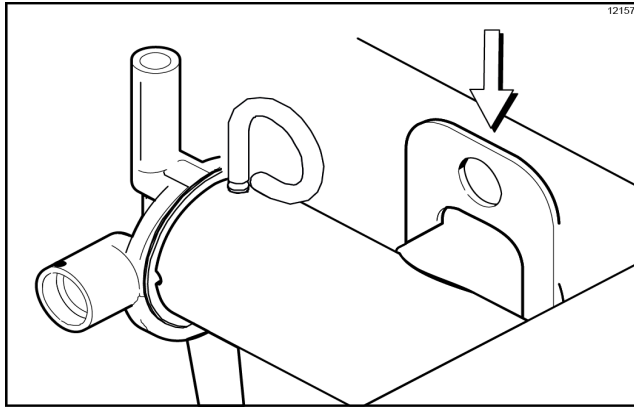

Figure-163
3. Install the pump assembly at the rear of the mix hopper. To position the pump on the drive hub, align the drive hole in the piston with the drive crank of the driveshaft. Secure the pump in place by slipping the pump clip over the collar of the pump, making sure the clip fits into the grooves in the collar. (See Figure-163).